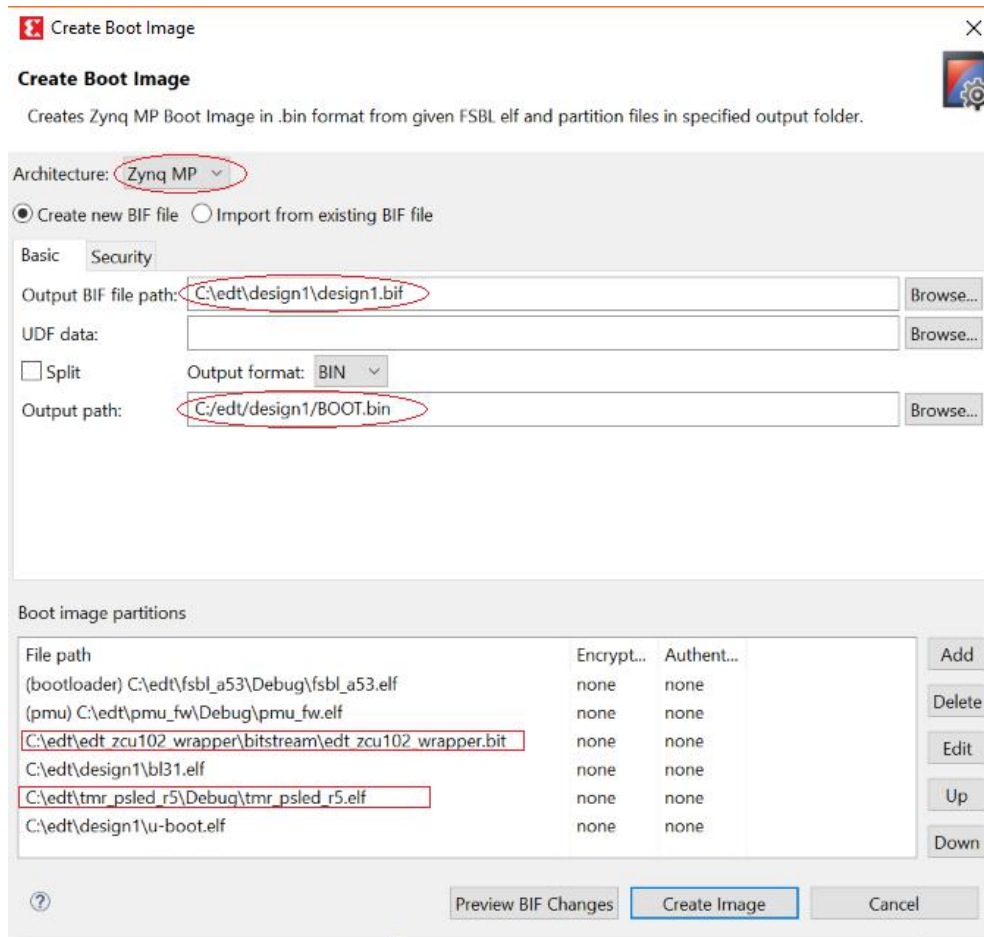

Figure 6-20: Create Boot Image for SD Boot Mode
4. See Figure 6-20 for settings in the Create Boot Image wizard.